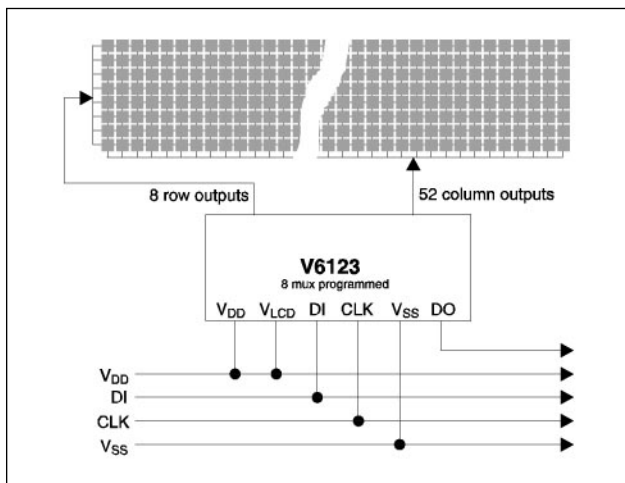

Fig. 1
- ☐ Very simple 1-bit interface (see Fig.1)